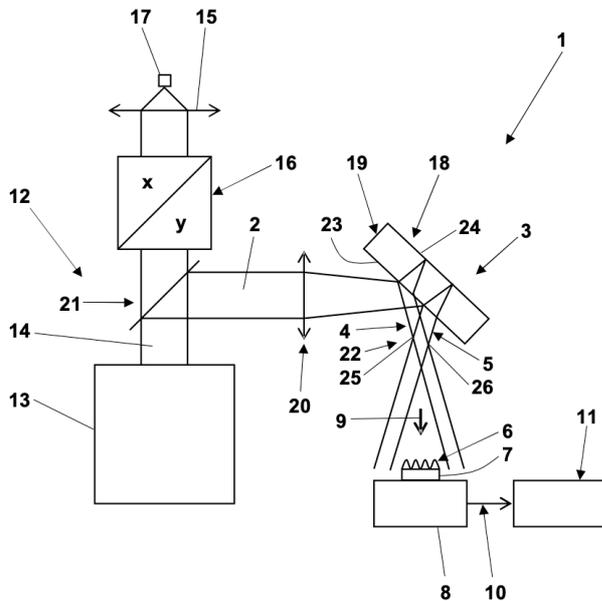

Fig. 3: Example of an implementation, according to the invention, of a shear-interferometer into a laser-scanning microscope.
The Invention can be exemplarily implemented, as shown in figure 3, into a laser-scanning microscope (12), where the light beam (2, 14) is provided by a laser (13) and focused by the objective (15). The focal point can be moved across the sample (17) by the scanner (16). To monitor the beam angle, the invention (1) investigates the light provided by a beam splitter (21) and focusses it onto a shear-interferometer (18) with a parallel glass plate (19). As the focal plane (22) is located behind the interferometer, the front (23) and back (24) of the plate are reflecting the light, generating parallel beams (4, 5) and forming separate focal points (25, 26). From these points, spherical waves propagate towards the photodetector (7) of the camera (8) and interfere with each other, resulting in a periodic pattern (6). The image data (10) are evaluated by a computer (11).